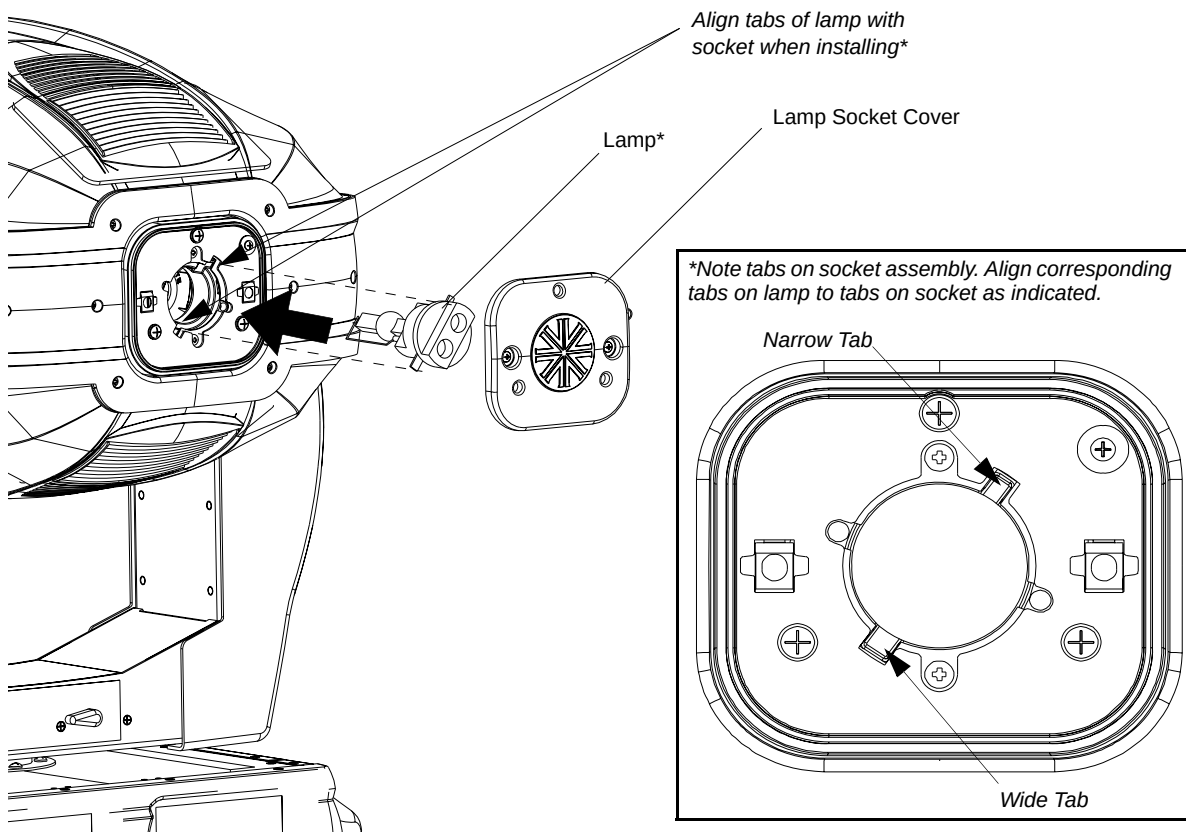

Figure 5: Lamp Installation
- Step 6. As shown in **Figure 5**, align lamp tabs with lamp socket.